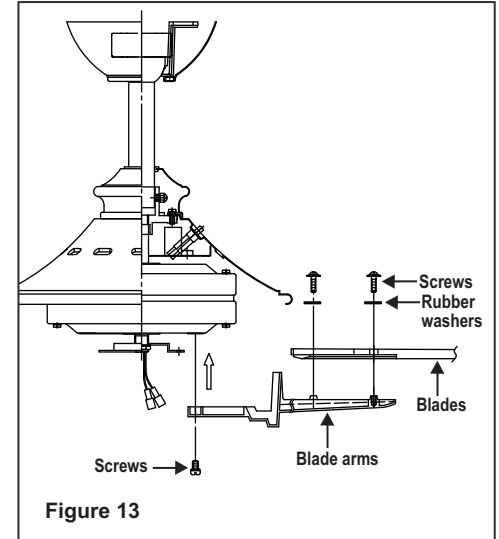

Figure 13
Step 1. Attach the blades to the blade arms using three screws and rubber washers as shown in Figure 13. Start a screw into the blade arm, do not tighten. Repeat for the 2 remaining screws and washers.